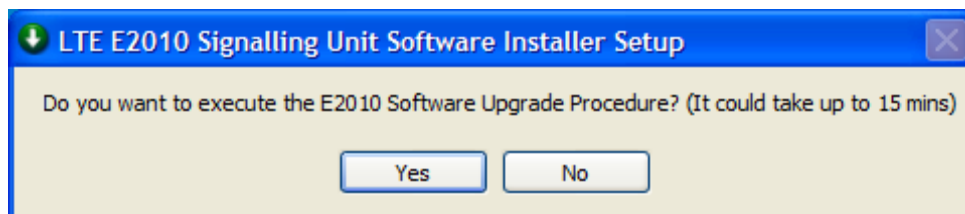

Figure 2-46: Execute the Upgrade Procedure Window
8. In the *LTE E2010 Signalling Unit Software Installer Setup* window shown in Figure 2-46, click **Yes**.